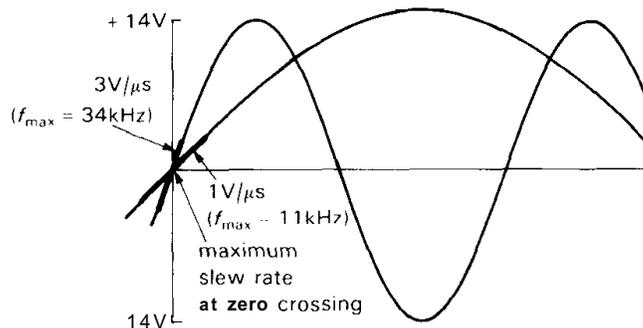

Figure 4.29. Slew-rate-induced distortion.
The op-amp "compensation" capacitance (discussed further in Section 4.32) and small internal drive currents act together to limit the rate at which the output can change, even when a large input unbalance occurs. This limiting speed is usually specified as *slew rate* or slewing rate (SR). For the 411 it is  $15\text{V}/\mu\text{s}$ ; low-power op-amps typically have slew rates less than  $1\text{V}/\mu\text{s}$ , while a high-speed op-amp might slew at  $100\text{V}/\mu\text{s}$ , and the LH0063C "damn fast buffer" slews at  $6000\text{V}/\mu\text{s}$ . The slew rate limits the amplitude of an undistorted sine-wave output swing above some critical frequency (the frequency at which the full supply swing requires the maximum slew rate of the op-amp, Fig. 4.29), thus